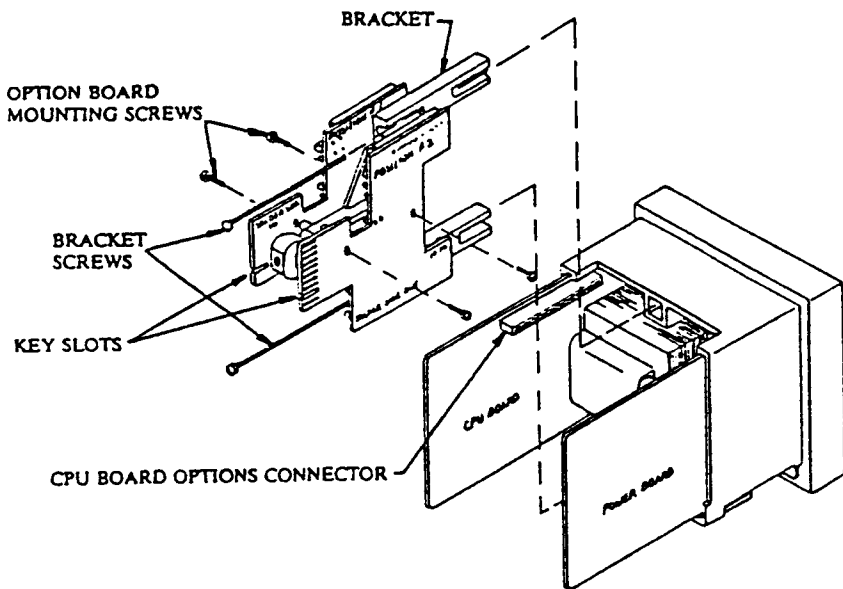
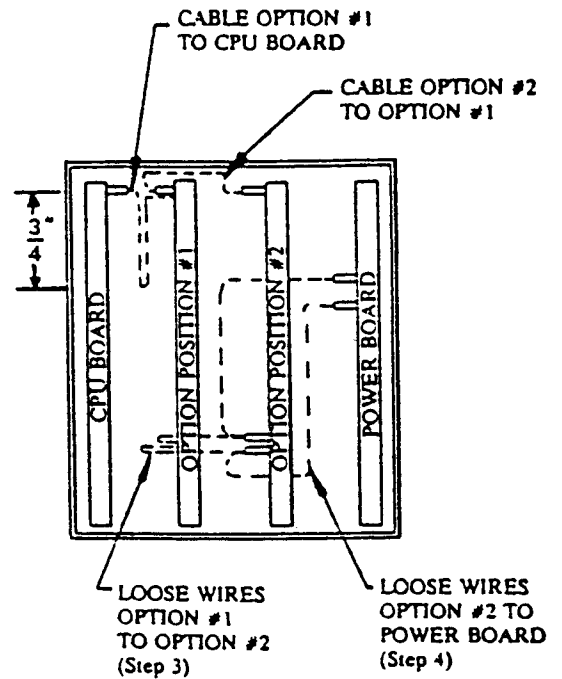

Figure 1
Figure 2 (REAR VIEW)
2. Remove the option board from its protective antistatic envelope taking care to hold the board by its edges and protecting the board from static damage. Mount the board on either side of the bracket with the card edge fingers to the rear and the component side of the board facing the CPU board (the board with a battery) using the screws provided. It is recommended that if a single option board is to be installed, it should be installed in option position #2 for ease of installation. Refer to Figures 1 and 2.
4. Plug the two (2) loose wires from the option board onto power board pins +20V (white/red) and -20V (white/black).
5. Direct the white/red and white/black wires so that they do not interfere with assembly. If a board is installed in position 1, preform the flat cables in a "V" shape to provide the proper lead forming as shown in Figure 2. Re-insert the bracket into the controller from the top side of the controller. Make sure that the component side(s) of the options board(s) are inserted as shown in the drawing with the jumper pins at the bottom edge of the controller. Take care not to unduly stress the option boards or the controller boards during insertion to prevent damage to the components or copper foil.
7. Now connect the remaining flat cable from the option board into the connector at the edge of the CPU board. Make sure that the flat cable was pre-folded as shown in Figure 2 before installation for cables coming from option position #1.